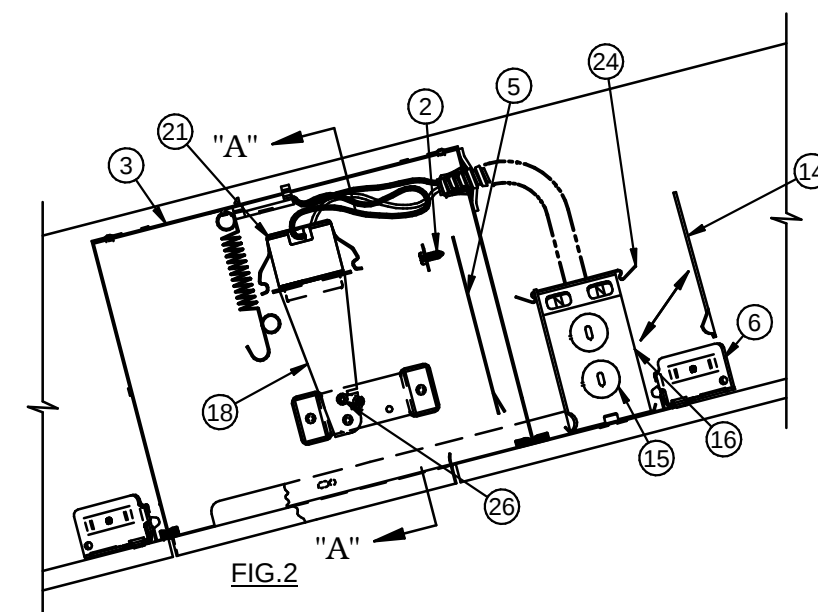

FIG. 2
WARNING: Use only those trims, lamps, and maximum wattages proper for this fixture, as indicated on the label within the housing (3) (Fig. 2).
- Adjust position of socket (21) by loosening thumbscrew (26) and rotating bracket socket (18). Retighten thumbscrew (Fig. 2 & 6).
- To gain access to junction box (16) after ceiling is finished, remove screw (2) and access door (5) inside of fixture. Junction box cover plate (14) can now be removed for service.
THIS UNIT IS TO BE USED ONLY IN CEILINGS WITH 0-12 TO 12-12 PITCH. THIS UNIT IS ONLY TO BE MOUNTED WITH JUNCTION BOX SLOPED UP. (AS SHOWN IN FIG. 2)